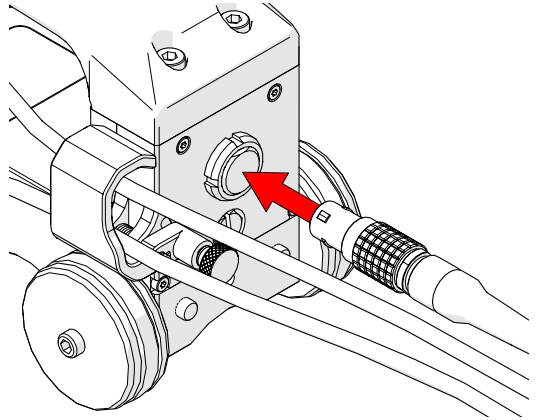

Fig. 78 - Connect encoder cable
5. Connect the encoder cable to the cart (Fig. 78).